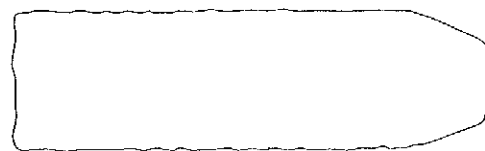

Fig. M8
- If the envelope is as shown in Fig. M8, adjust the height of Guide Roller [3] (Refer to Fig. M3) so that the waveform looks like the one shown in Fig. M9.